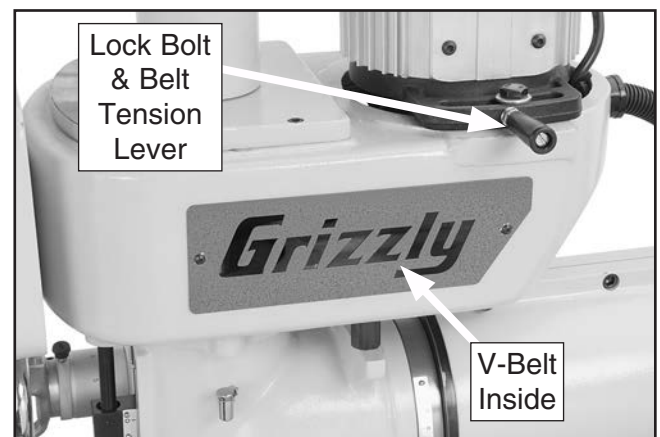

Figure 46. V-belt tension adjustment bolt.
2. Using a 17mm wrench, loosen the lock bolt, push firmly and hold the belt tension lever toward the rear of the machine and retighten the lock bolt (**Figure 46**).